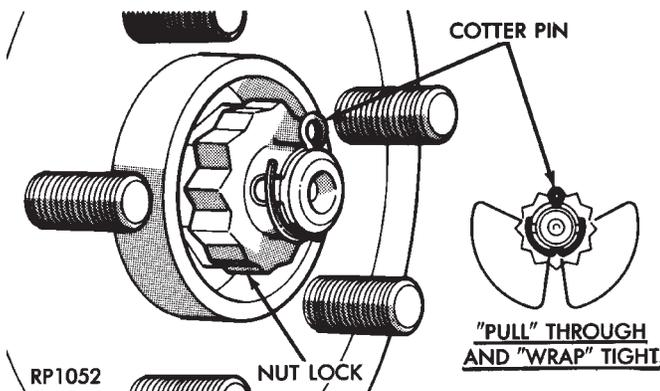

Fig. 18 Install Spring Washer, Nut Lock, & Cotter Pin
(12) Install the spring washer, hub nut lock, and new cotter pin. Wrap the cotter pin prongs tightly around the hub nut lock (Fig. 18).
(13) Install the front wheel and tire assembly. Install the front wheel lug nuts and torque to 129 N•m (95 ft. lbs.).